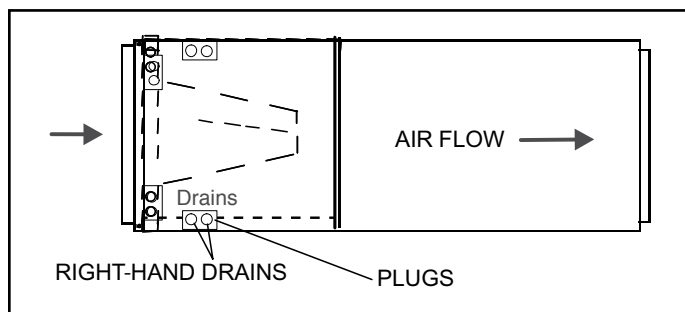

Figure 2. Right-Hand Discharge Configuration
4. The horizontal configuration is shown in Figure 2.